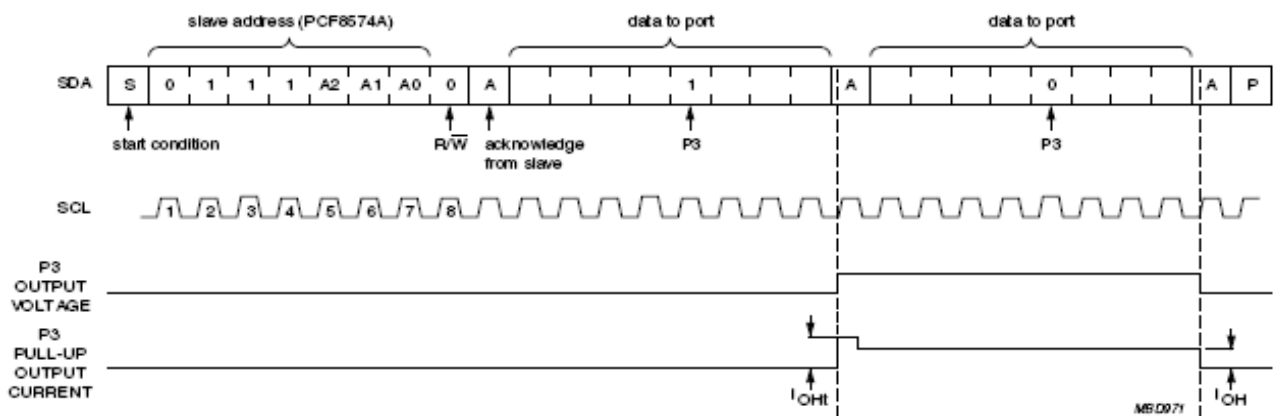

Fig.14 Transient pull-up current I_{OHt} while P3 changes from LOW-to-HIGH and back to LOW.
7.3 Cuasi-bidireccional I/Os (ver Fig. 14)